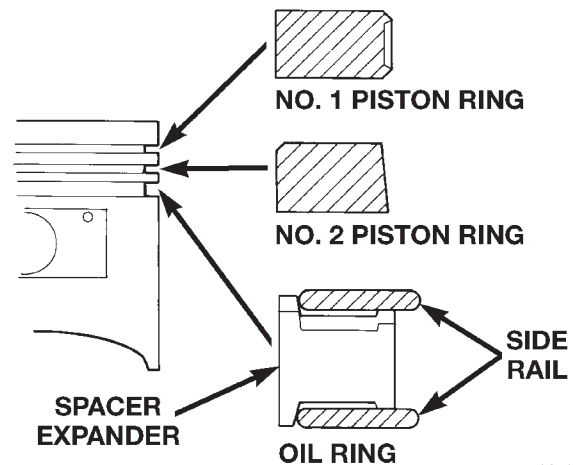

Fig. 7 Piston Ring Installation
(1) Install rings with manufacturers I.D. mark facing up, to the top of the piston (Fig. 7).